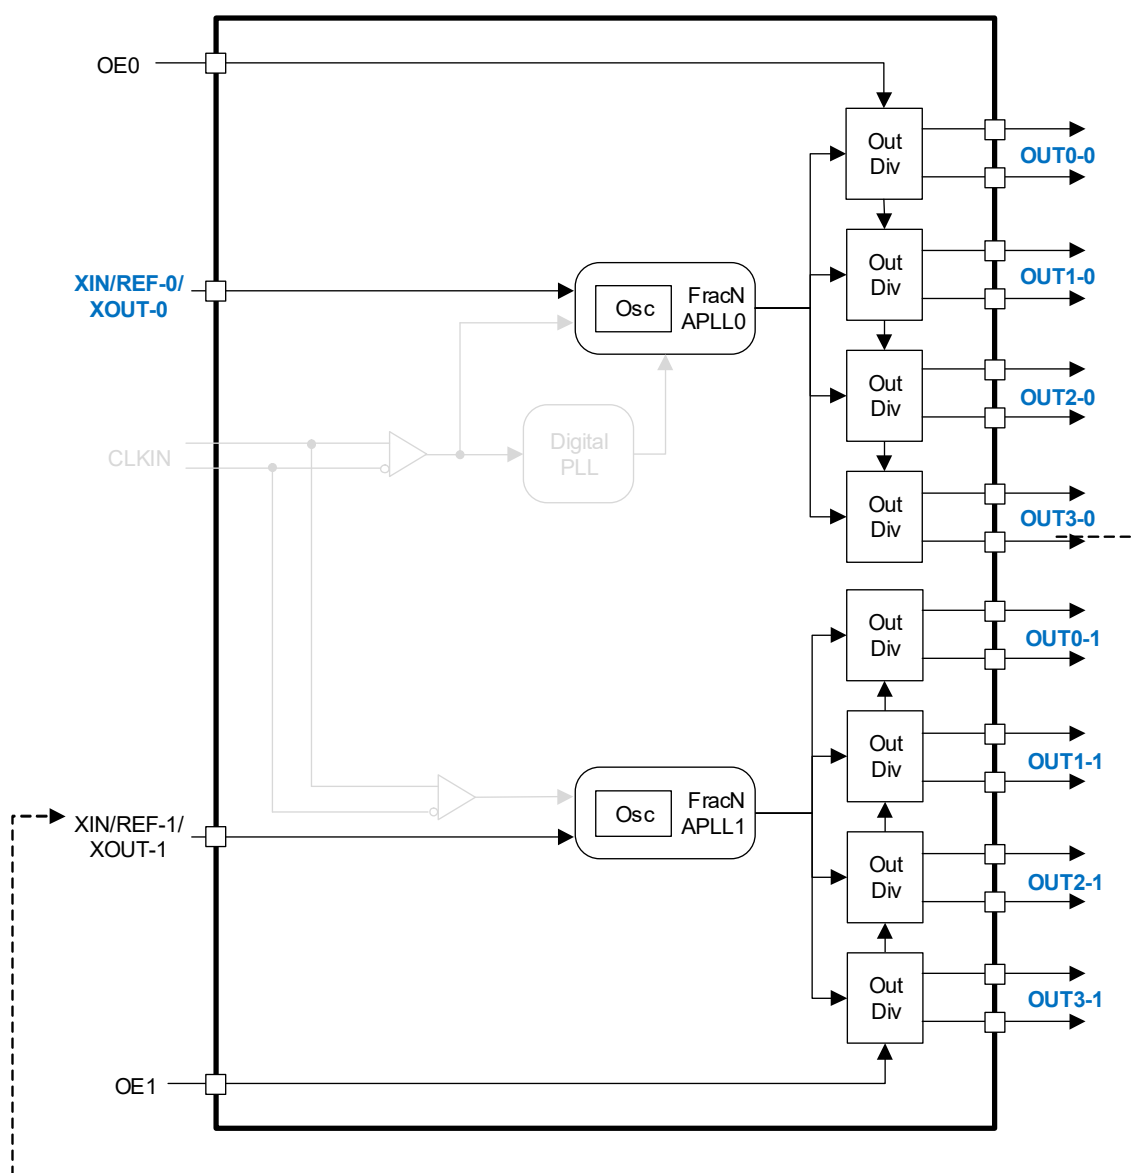

Figure 5. Clock Generator Mode with RC32508A when External Crystal fed into XIN/REF-0/XOUT-0
- As shown in Figure 5, up to two frequency domains can be obtained in this configuration and up to seven differential outputs and 1 LVCMOS output or 15 LVCMOS outputs can be obtained.